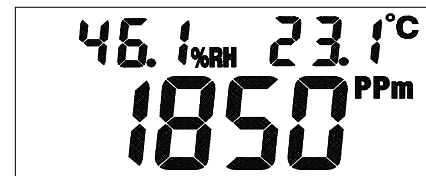

Fig.3
- ◆ Please see fig3, LCD screen display normal working status.